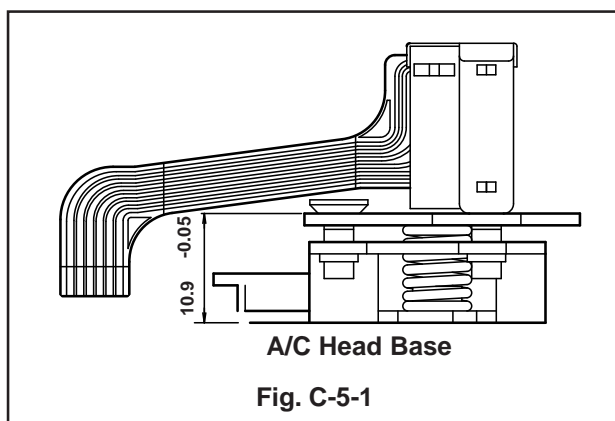

Fig. C-5-1
- Initially adjust the Base Assembly A/C Head as shown Fig. C-5-1 by using the Height Adjustment Screw(B).